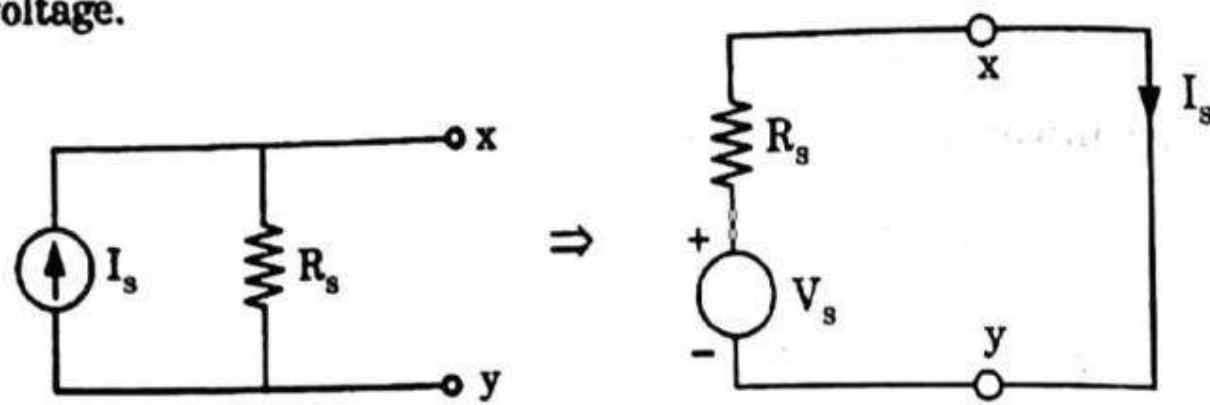

Fig. 1.4.2.
- Let us consider a practical current source I_s with a source or internal resistance R_s , as shown in Fig. 1.4.2.